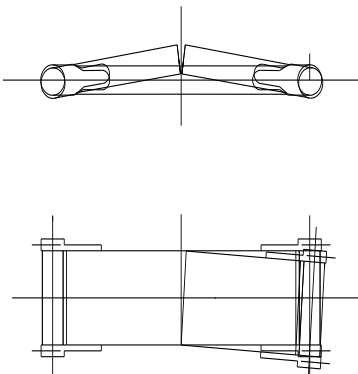

Figure 5: Adjustment of the conveyor belt
- Adjust the conveyor belt frames towards each other in true alignment (figure 5)